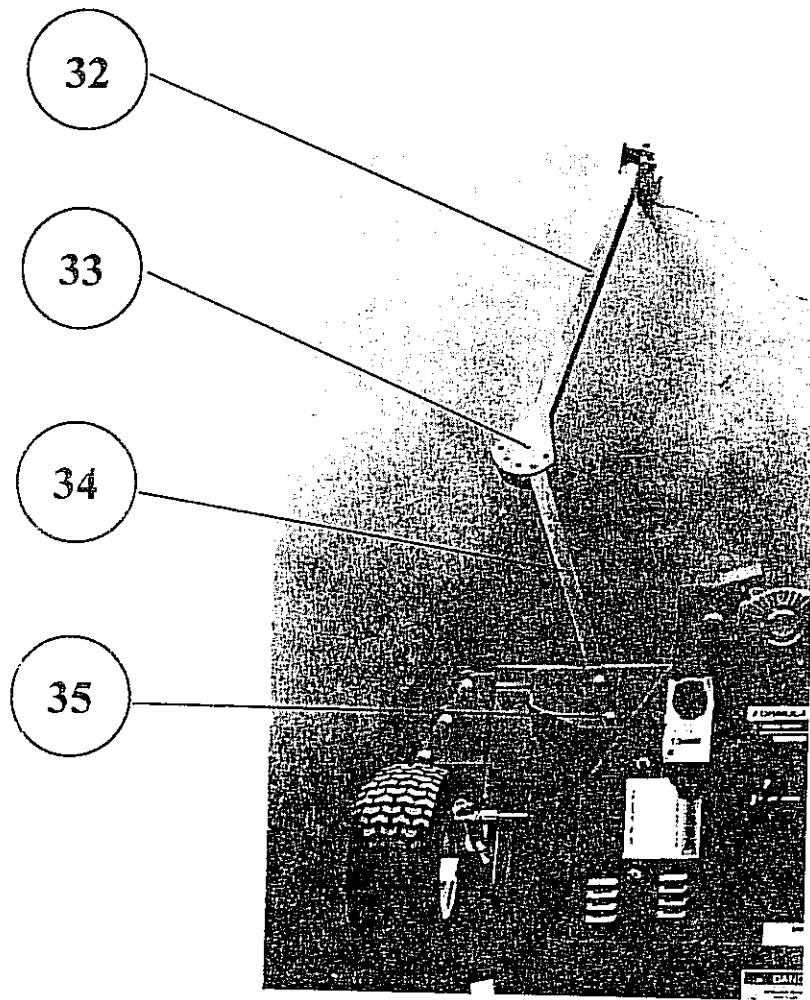

Figure 7
- Install rear hitch section (fig. 7 item #34) on mower bracket at the desired angle using 2 (two) 5/16-18 x 2 1/4" bolts and nuts. (See Fig. 7 item # 35)
- Attach center hitch section (fig. 7 item #32) to the rear hitch section at the desired angle using 2 (two) 5/16 - 18 x 2 1/4" bolts.